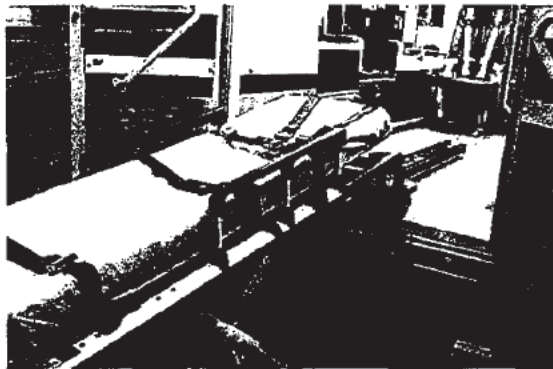

Figure 36
4. Push the cot into Power-LOAD until the cot load wheel pins lock into position as shown in Figure 36. Ensure that the cot is aligned with the lifting arms when loading.